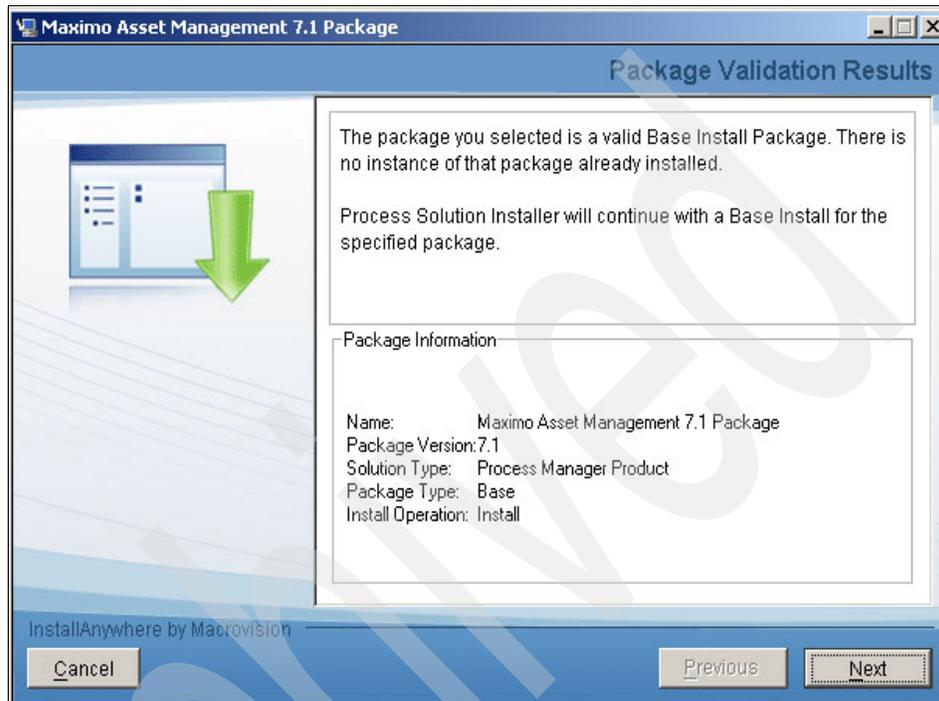

Figure 5-28 Package Validation Results
2. Enable the package to be validated, click **Next** (see Figure 5-28).